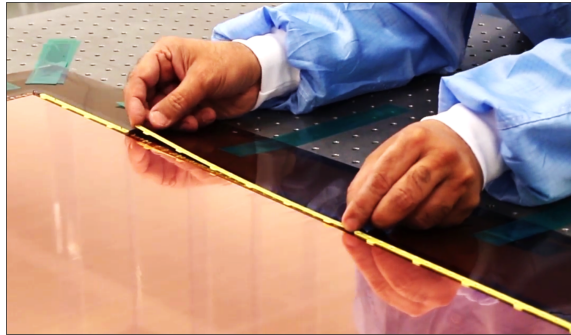

Figure 75: Placing the 1mm internal frames.
Step 26: Clean the last set of 1 mm internal frames and place them on the stack so as to form the induction gap (Fig. 75).